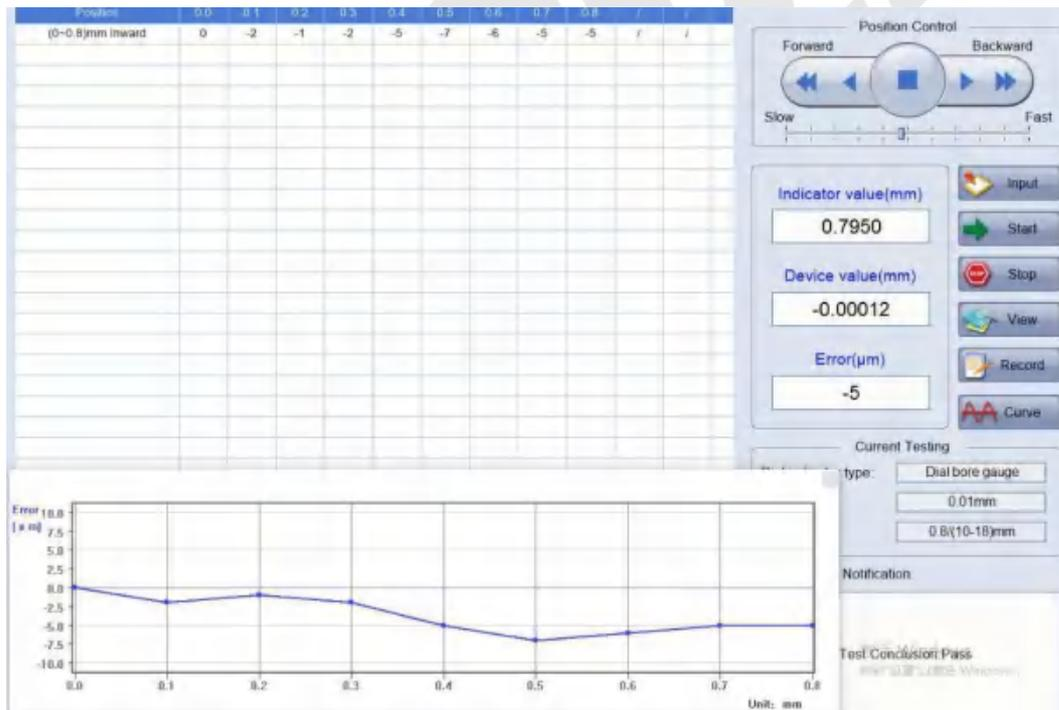

Figure 5-24 Measurement finished
- Click the “Start” button to start the automatic recognition of “0” as the beginning of the fully automatic measurement. After measurement, the software will automatically calculate the errors and the “Measurement guidance” window will show the measurement results. See figure 5-24.